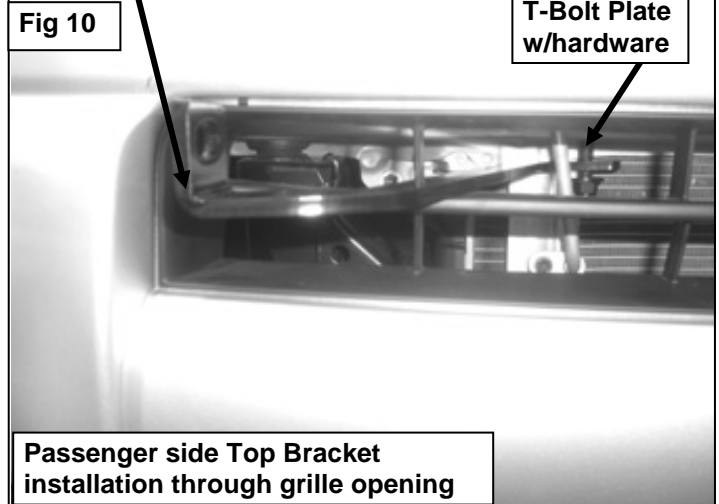

Fig 10
- Line up the mounting hole in the passenger side Top Bracket with the corresponding hole in the upright on the Grille Guard. Bolt the Top Bracket to the Grille Guard with the included 10mm x 30mm Button Head Bolt, (1) 10mm Flat Washer and 10mm Nylon Lock Nut, **(Fig 10)**. Do not tighten hardware at this time. Repeat this Step to bolt the driver side Top Bracket to the Grille Guard.